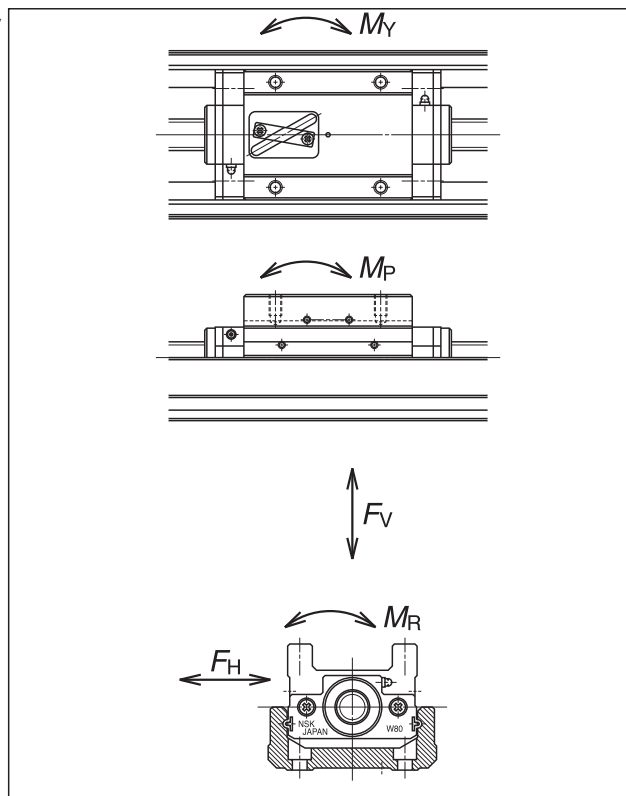

Fig. 1-10 Direction of load
Study the load to be applied to the linear guide of Monocarrier (Fig. 1-10). The equivalent load (F_e) is determined by substituting the load for equation ① (Eq.② : in case of the tightly coupled double slider type).